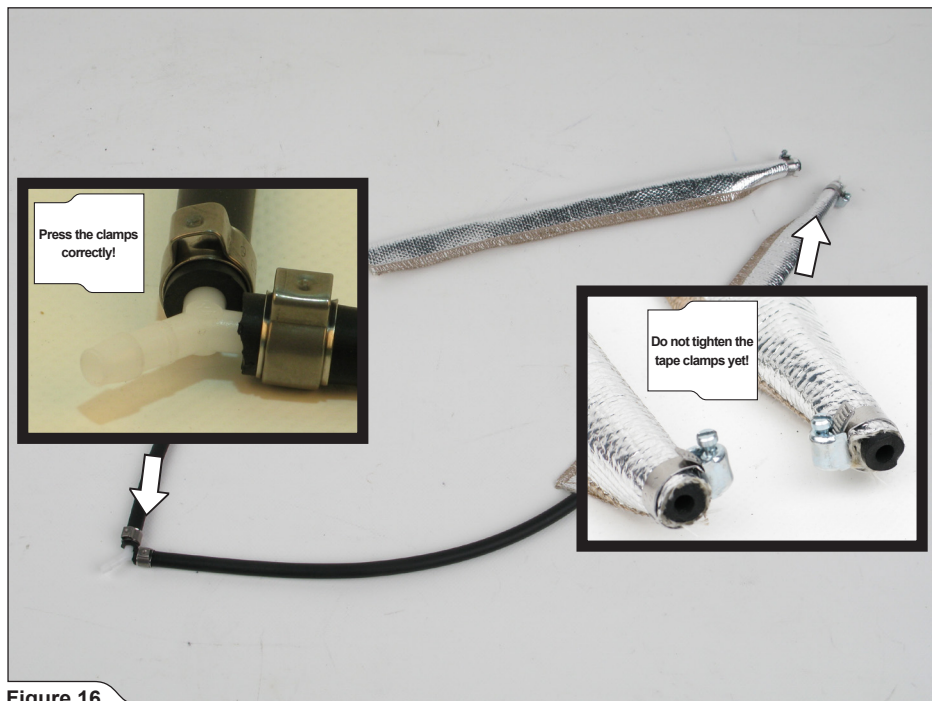

Figure 16
1. **For vehicles with original sports exhaust system only:** assemble the heat protection onto the rubber vacuum tubes using tape clamps; bind the other ends of the rubber tubes, using plastic Y distributor and clamps, as shown (Figure 16).